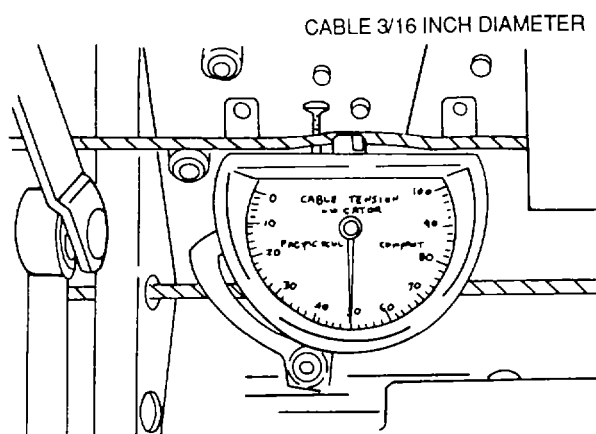

Figure 7-5. Using a Tensiometer
b. Use. The following steps outline the general procedures for measuring cable tension with a tensiometer (see figure 7-5):
(1) With the trigger lowered, place the cable to be tested under the two anvils.
(2) Close the trigger. Movement of the trigger pushes up the riser, which pushes the cable at right angles to the clamping points under the anvils.